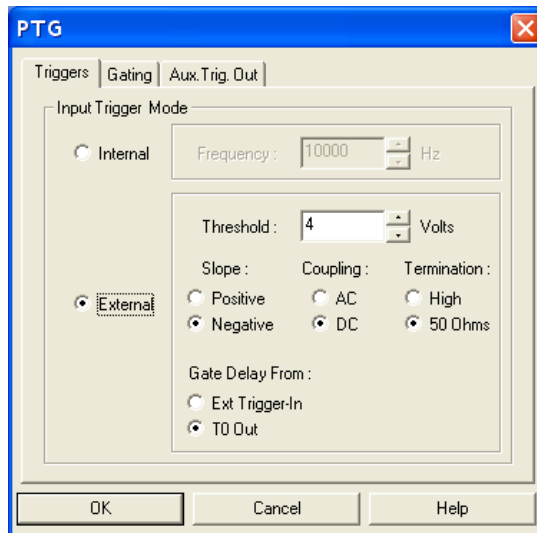

Figure 175. PTG/Triggers tab
3. Select **PTG**. Then click on the **Setup Pulser** button. The PTG dialog (Figure 175) will open. *If PTG is grayed out on the Pulsers dialog, PTG support has not been installed.*